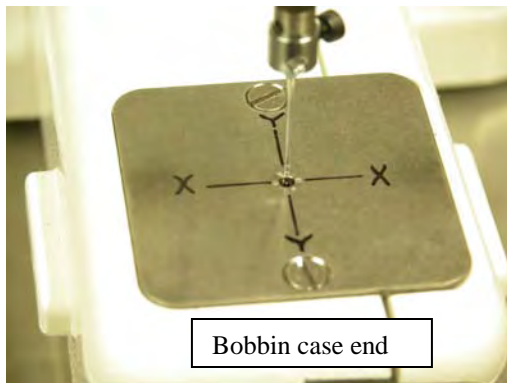

Figure 8.1
- Use a new 135 x 7 size 100, needle. The needle must be centered in the stitch hole of the needle plate as shown in figure 8.1. **(2mm and 3mm handle allen)**